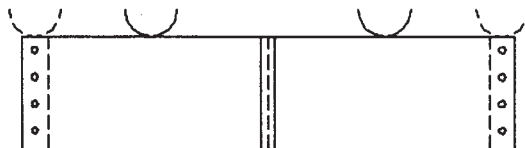

Fig. 25
**NOTE:** Tear points can be moved to position them at any location along tear bar. Tear points should be set between perforations that run vertically the length of the form. (Fig. 25)